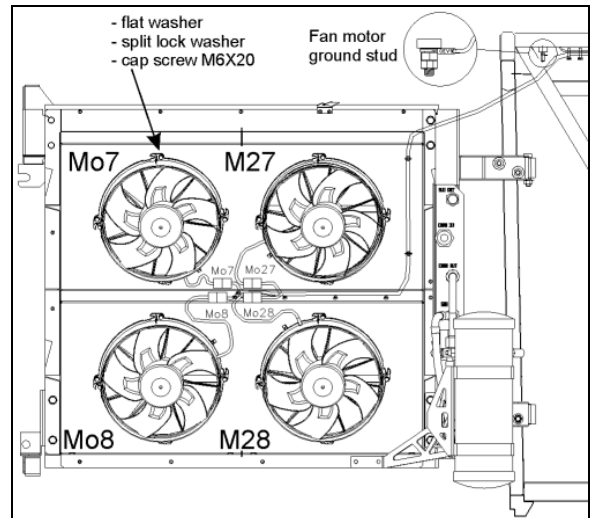

FIGURE 48: CONDENSER FANS
2. Unplug the fan harness connector (Figure 48).